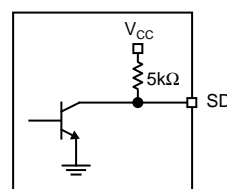

Figure 5. SD Output Structure
The SY88983V generates a chatter-free signal detect (SD) open-collector TTL output with internal  $5\text{k}\Omega$  pull-up resistor as shown in Figure 5. SD is used to determine that the input amplitude is large enough to be considered a valid input. SD asserts high if the input amplitude rises above the threshold set by  $\text{SD}_{\text{LVL}}$  and de-asserts low otherwise. SD can be fed back to the enable (EN) input to maintain output stability under a loss-of-signal condition. EN de-asserts low the true output signal without removing the input signals. Typically, 4.6dB SD hysteresis is provided to prevent chattering.